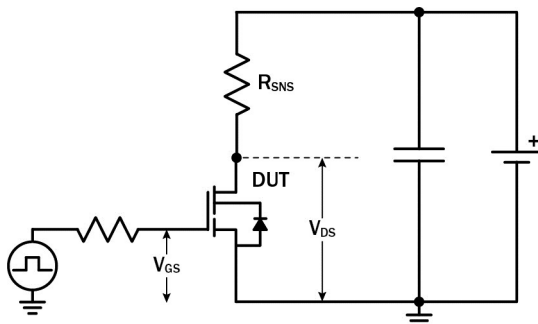

Figure 17. Dynamic $R_{DS(on)eff}$ Test Circuit
- Dynamic on-resistance; see Figures 17 and 18 for test circuit and conditions